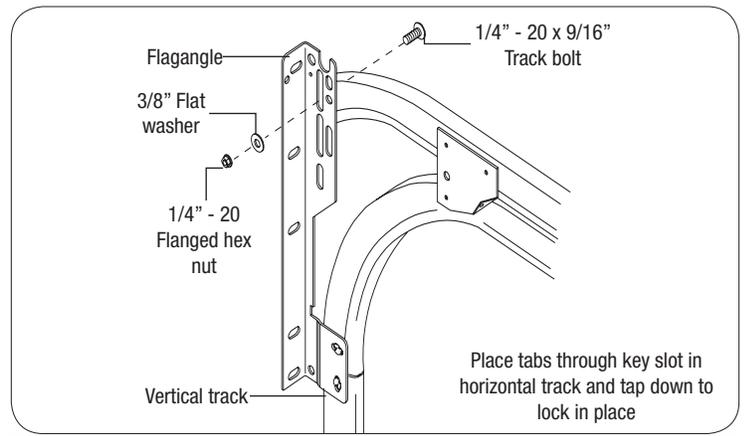

FIG. 5.1
Place (1) 1/4-20 x 9/16" track bolt through the slot in the end of the top curve and the appropriate slot in the flagangle, then secure with a 3/8" flat washer and flanged hex nut (do not fully tighten). Level the horizontal track, then tighten the bolt in the top curve, as shown in FIG. 5.1.